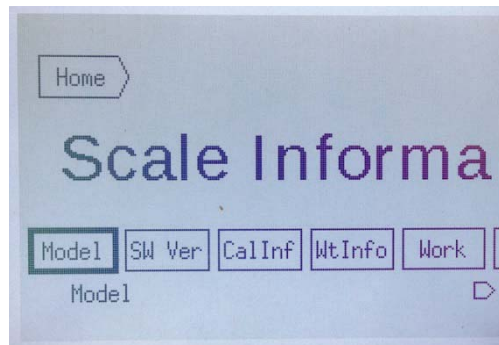

Figure 4-9: Info Screen
- A small arrow at lower right on a screen of selections (see Figure 4-9) indicates that further options may be viewed by scrolling right.